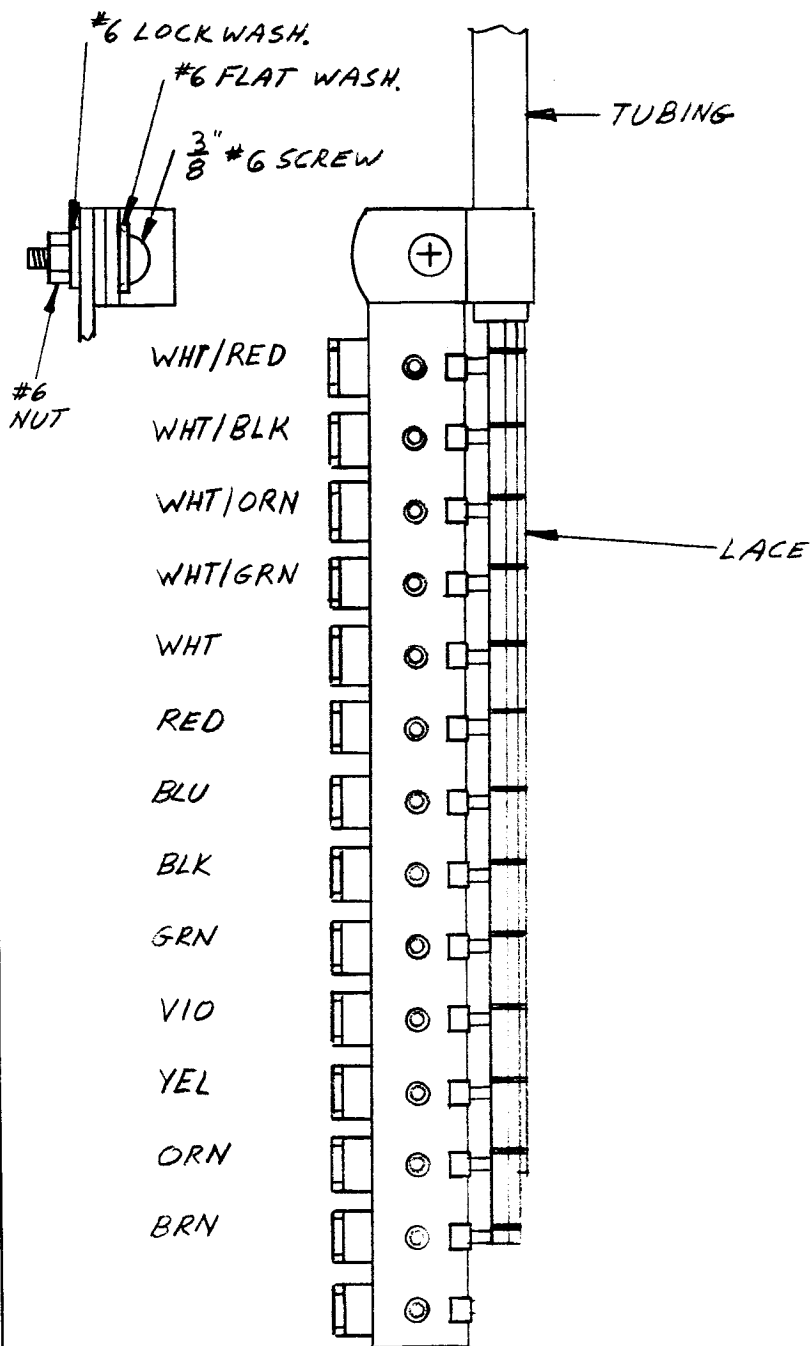

Fig. 1
3. Wire the strip as shown in Fig. 1.